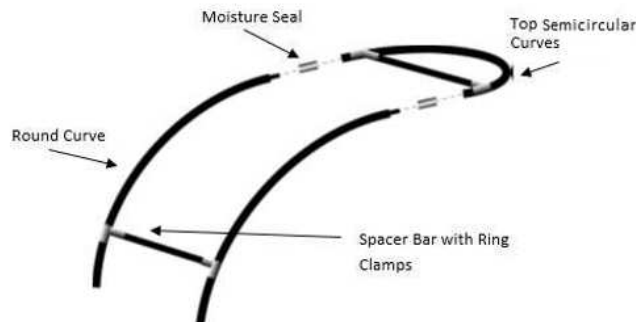

Figure 2: Attach the top curve to the Round Curve
5. Attach a spacer bar onto the bottom of the Round Curves, position the spacer bar so it is 40" away from the spacer bar attached onto the Top Curves, see Figure 2.